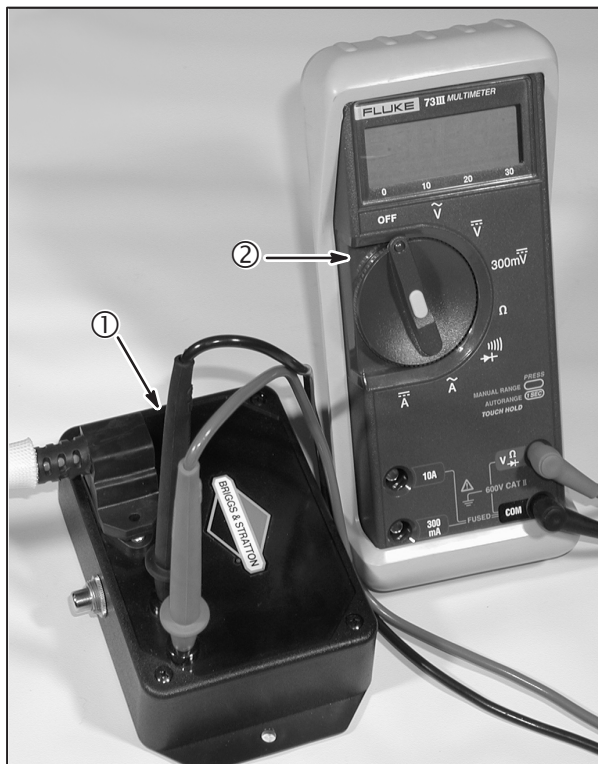

Fig. 38
2. Install alternator harness plug into socket in PowerLink™ Test Box #19528 (1), Fig. 38.